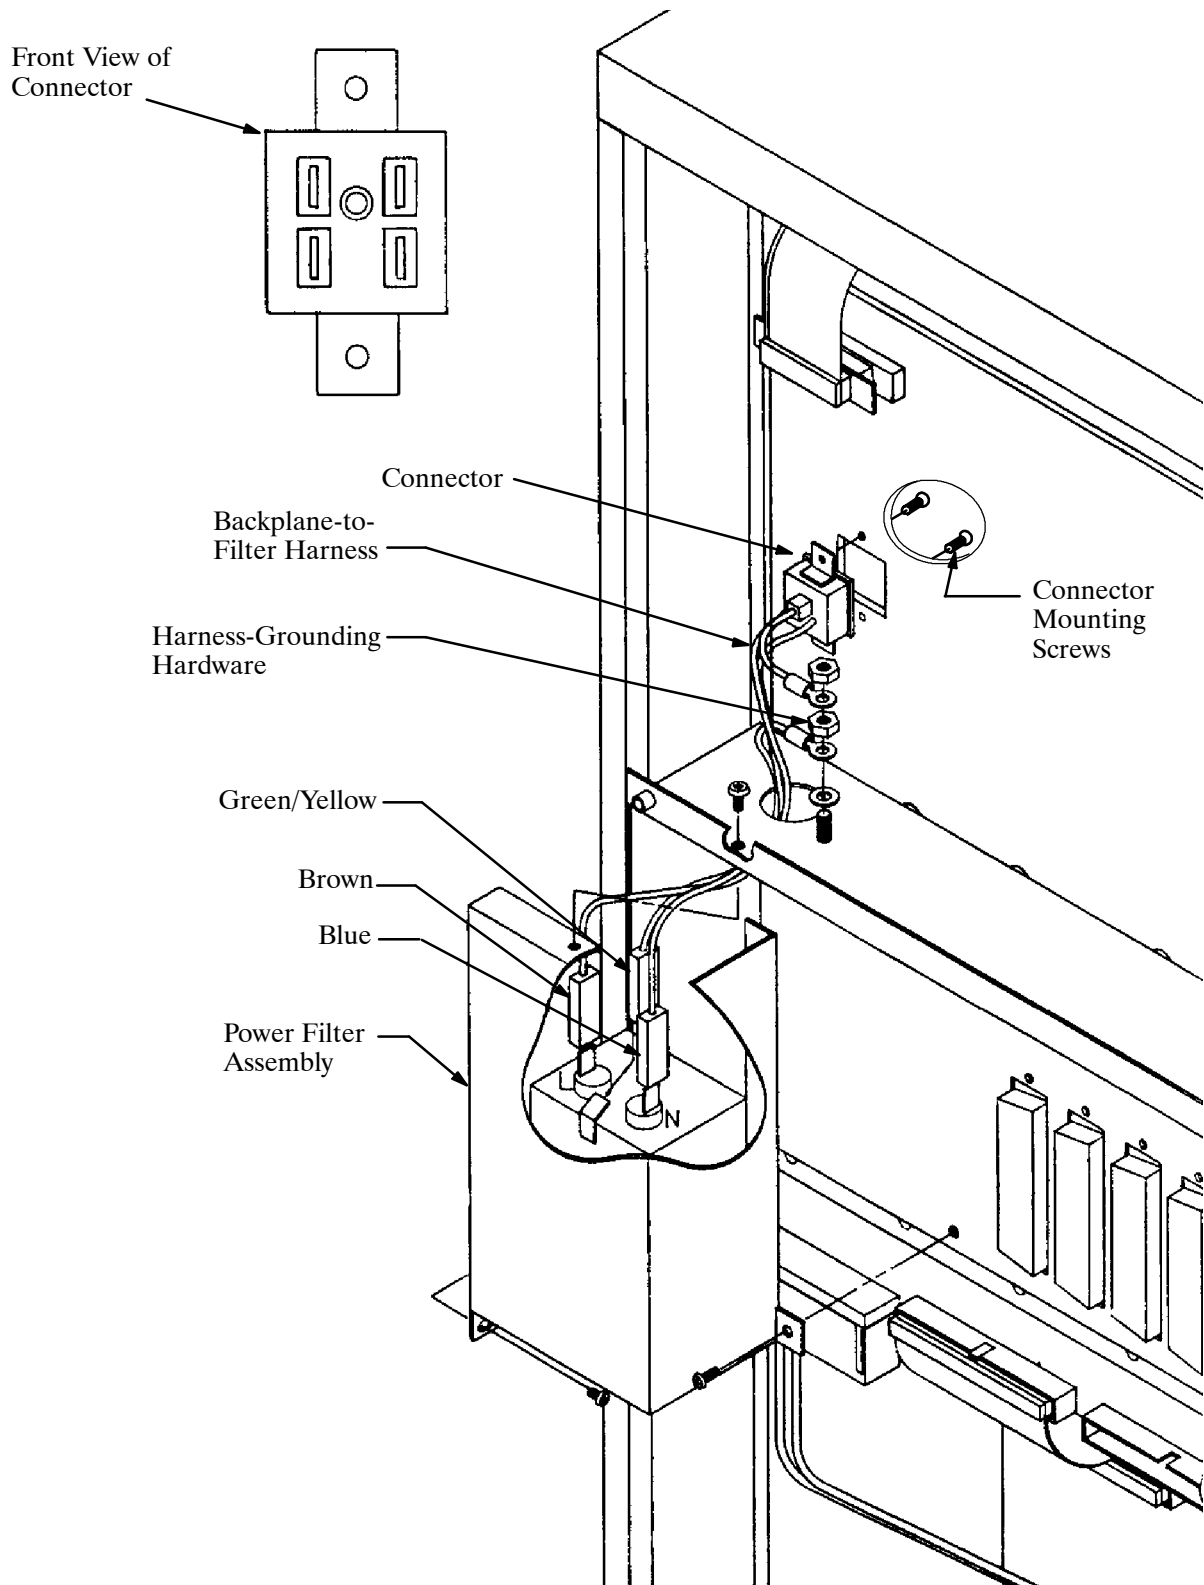

Figure 9-25 Octel 300 100-240 VAC Worldwide Power Filter Assembly
3. At the back of the Octel 300, unplug the AC power cord from the power source. Unplug the other end of the AC power cord from the Power Filter Assembly located on the back of the Octel 300. Refer to Figure 9-25.
5. Remove and set aside the three screws holding the Power Filter Assembly to the chassis. Refer to Figure 9-25 for the location of the screws.
6. Lift the Power Filter Assembly away from the chassis and unplug the three Backplane-to-Filter harness connectors from the terminal lugs on the filter mounted on the Power Filter Assembly. Refer to Figure 9-25. The Power Filter Assembly should now be free from the system chassis and may be set aside.
Each colored wire (Green/Yellow, Brown, and Blue) must be connected to the appropriate terminal lug. Refer to Figure 9-25 for proper wire connector placement.
4. Remove the AC filter-to-backplane harness by removing the two screws that hold the connector in the backplane, as shown in Figure 9-21 for the 120 and 240 VAC or Figure 9-25 for the 100–240 VAC. These screws can be accessed through the front of the chassis. Remove the nuts and washers that secure the ground wires. Pull the harness out of the message server.